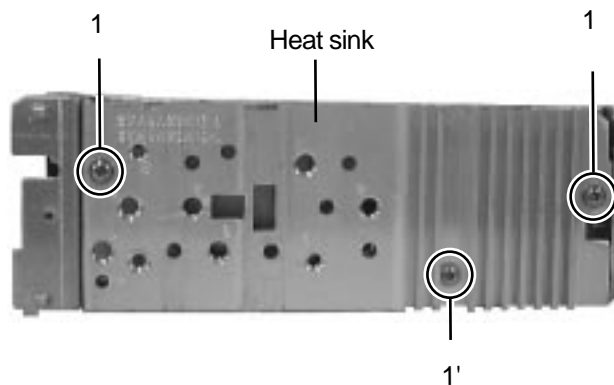

Fig. 5
■ **Removing the heat sink (See Fig.5)**
(See Fig. 5 to 7)